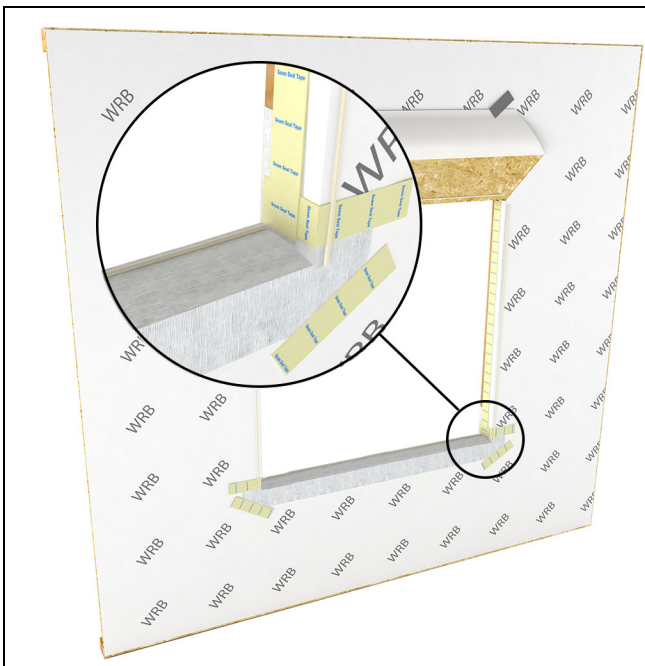

Figure 10
7. Apply seam seal tape over the corners. Place plastic or composite shims at the ends and in the middle of the RO to counter the slope of the sill wedge and support the unit. Fasten with adhesive or finish nails. If using finish nails, place adhesive under shim where the nail will penetrate. See Figure 10.